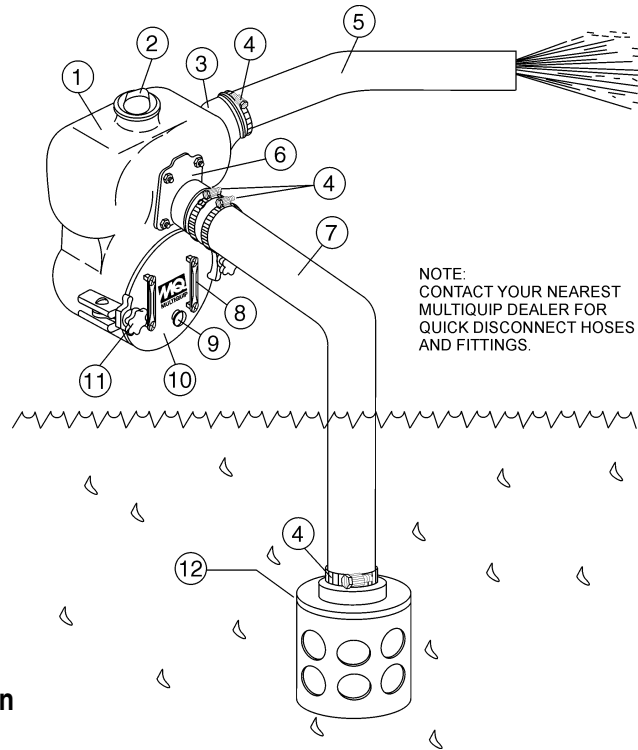

Figure 2. QP-40TH Pump Application
Figure 2 shows a typical application using the QP40TH Centrifugal Trash pump. Please note that this pump is intended for the removal of clean water and water containing some debris and solids. Maximum size of solids should not exceed 2 inches (50 mm) in diameter. **DO NOT** set strainer on bottom of water bed. Placing the strainer above the water bed will prevent the pump from drawing in excessive amounts of sand and foreign debris.
3. To prime pump, remove fill cap (Figure 2) and fill pump casing with water. If the pump casing is not filled with water before starting, it will not begin pumping.
6. Make sure the **suction strainer** (Figure 2) is clean and securely attached to the water end of the suction hose. The strainer is designed to protect the pump by preventing large objects from being pulled into the pump.
1. Check that all hoses are **securely** attached to the pump. Make certain suction hose (Figure 2) does not have any air leakage. Tighten hose clamps and couplings as required.
4. Check that the **discharge** hose (Figure 2) is not restricted. Place hose so that it lays as straight as it is possible on the ground. Remove any twists or sharp bends from hose which may block the flow of water.